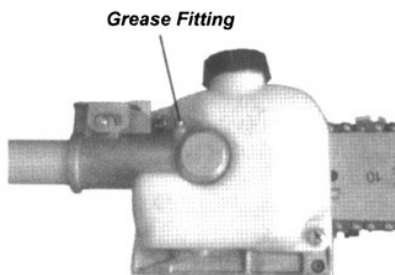

Figure 37
- Lubricate the gearcase. To perform this operation, first remove the gearcase from the upper outer tube as follows(Figure 37):